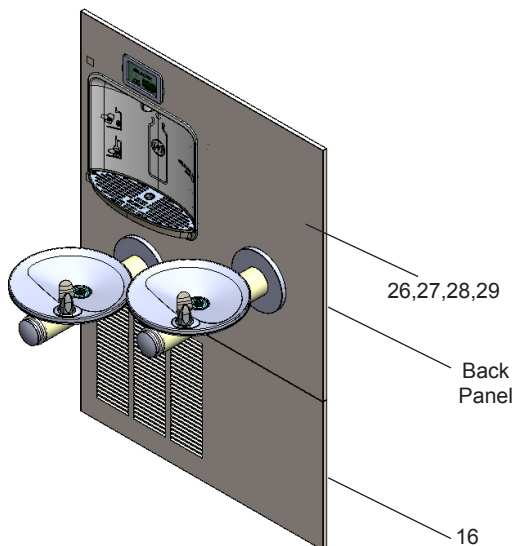

Figure 4 - Lower Panel Installation
17. Install the bottom panel, tighten screws (Fig. 4).